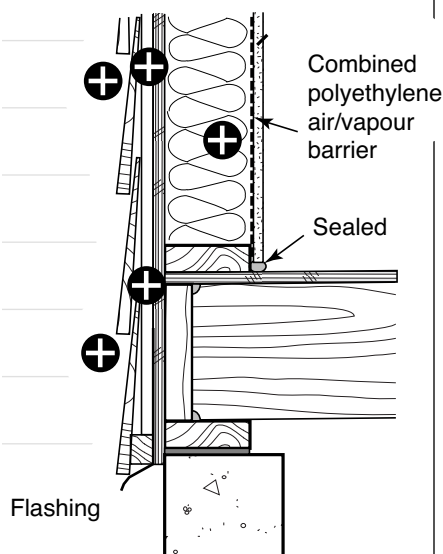

FIGURE 28
- ◆ Use rain-screen principles to reduce the pressure difference between the exterior (wind) and the interior of the wall and therefore reduce the amount of water moving into the wall cavity (see section 3.1.3). Ensure effective drainage of the wall cavity (see Figure 28).